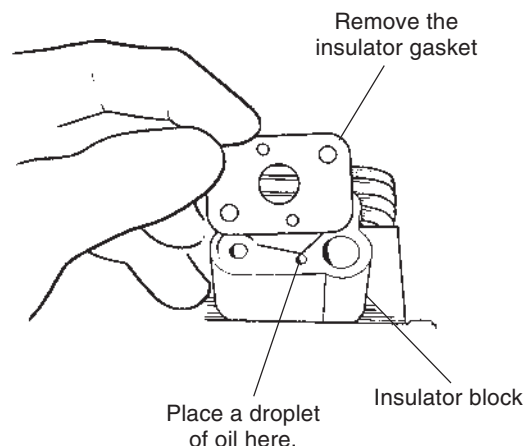

Figure 3.7 Making sure the impulse passage is clear.
- Verify correct filter components and installation through the current IPL, and inspect the filter element for dirt and debris (Figure 3.7).
Remove the carburetor and place a small drop of oil over the impulse passage. If the impulse passage is clear, the oil droplet should move rapidly in and out during engine cranking (Figure 3.7).